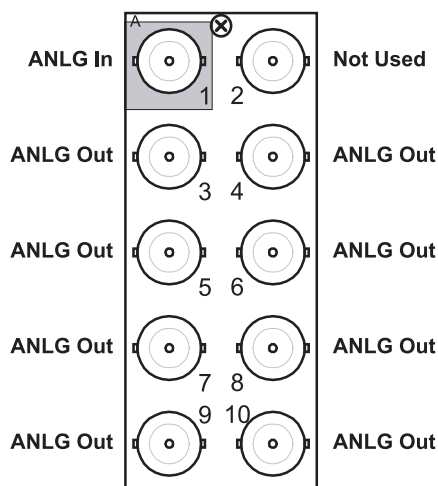

Figure 2.2 Cable Connections for the R1-8707 and R2-8707 Rear Modules
- **8310AR-030** (R1-8707) Rear Module — Each card occupies one slot and provides eight analog video outputs, and an analog video input. The input must be terminated on the VEA-8707A using **JP8**. Refer to **Figure 2.2** for cable connections.
- **8320AR-030** (R2-8707) Full Rear Module — Each card occupies two slots and provides eight analog video outputs, and an analog video input. The input must be terminated on the card by setting **JP8** to **TERM**. Refer to **Figure 2.2** for cable connections.